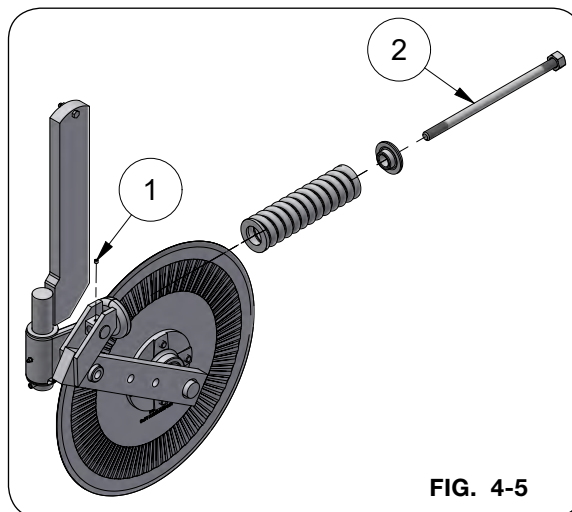

FIG. 4-5
1. Loosen the set screw retaining the spring bolt on the coultter arm (FIG. 4-5).
2. Slowly unscrew the spring bolt which will relieve spring pressure (FIG. 4-5).